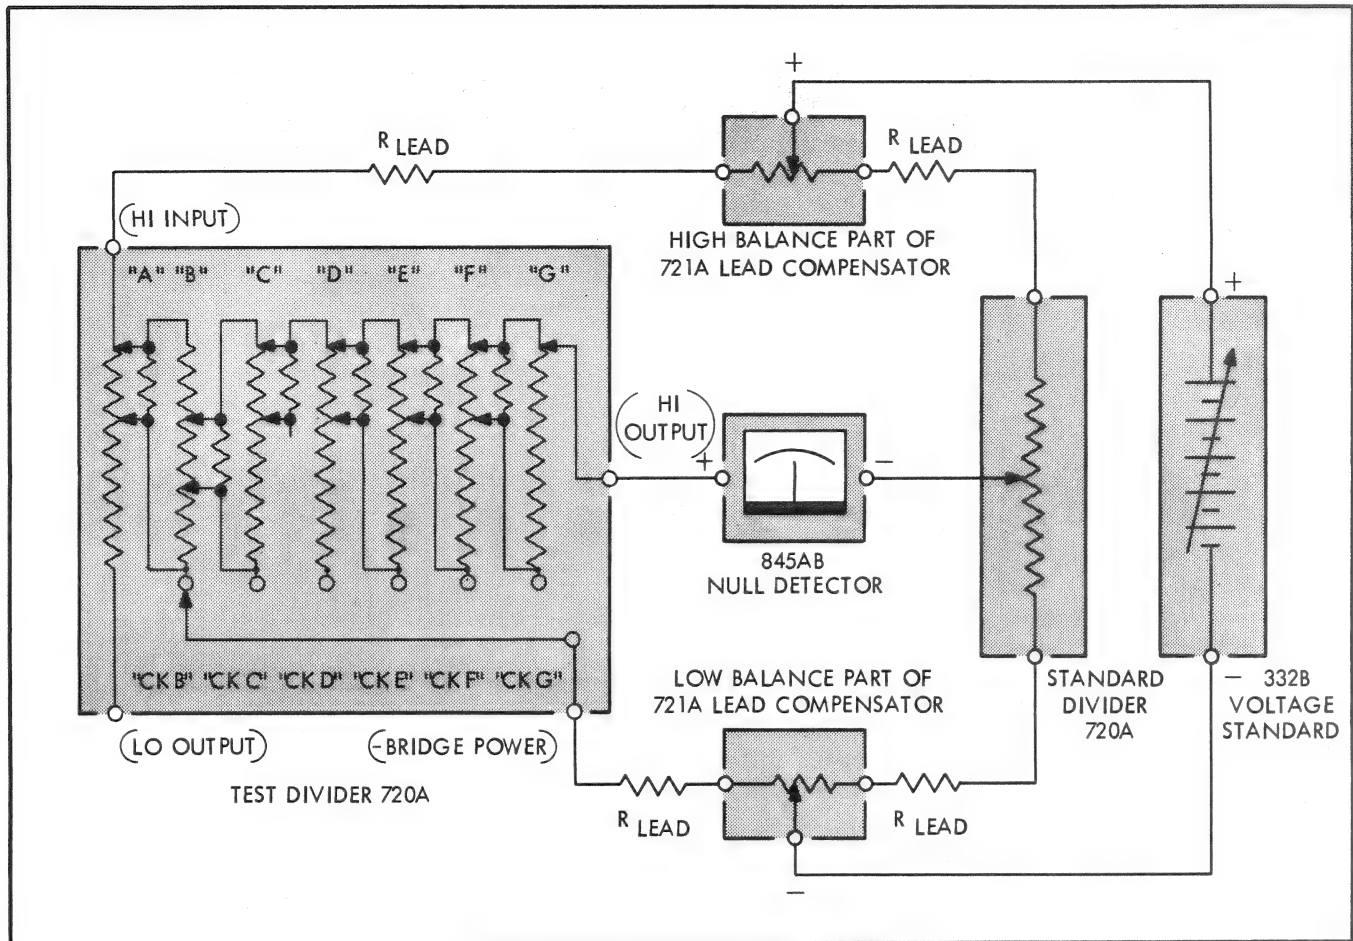

Figure 4-6. SIMPLIFIED SCHEMATIC DIAGRAM OF DECADE LINEARITY TEST
*Figure 4-6 is a schematic diagram of the test set-up obtained by interconnecting the equipment as shown in Figure 4-5.*